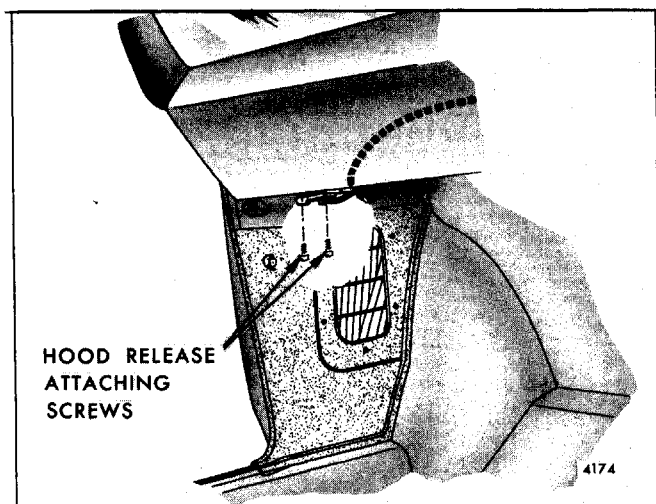

Fig. 4-29-Hood Latch Release Assembly Attachment - "H" Body (Less "07,27" Style)
1. Under instrument panel, remove screws securing hood latch release to mounting bracket. Disengage release cable grommet from opening in shroud side panel (Fig. 4-29).
3. Detach cable from latch bolt. Remove hood latch release assembly toward body interior by pulling cable through plenum chamber and through hole in side shroud panel (Fig. 4-29).